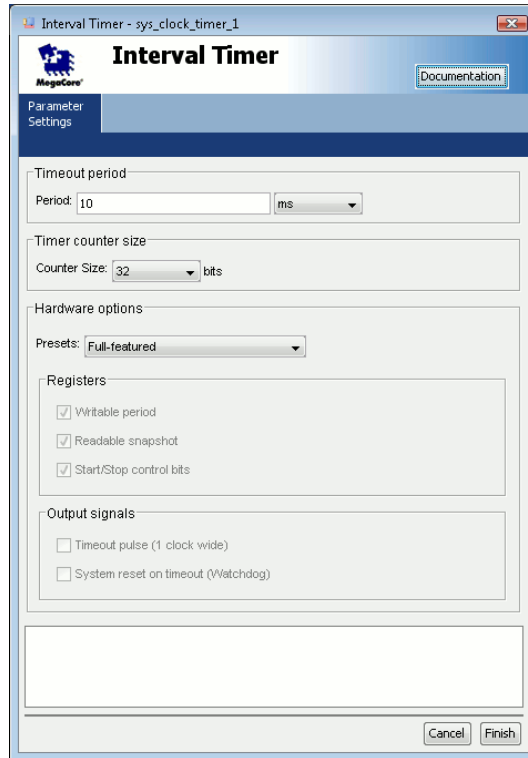

Figure 1.2: When creating `sys_clk_timer_1`, use a 10 ms periods.
11. Add an Interval Timer component (you can find it under the “Other” tab of SOPCBuilder) named `sys_clk_timer_1`. Set the period to 10 ms. This timer is required by the Altera HAL for the system clock (see Figure 1.2).